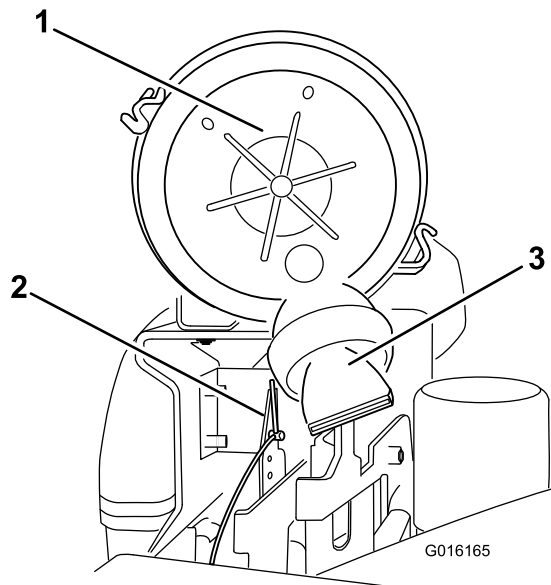

Figure 47
4. Position the air-cleaner cover, so that the breather valve does not interfere with the throttle mechanism (Figure 47).
5. Secure the cover with the latches (Figure 47).